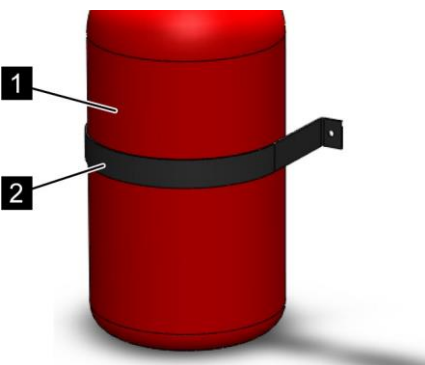

Fig. 193: Remove the clamp
8. ➤ Remove the clamp (Fig. 193/2) and carefully place the extinguishing agent container (Fig. 193/1) to the side.